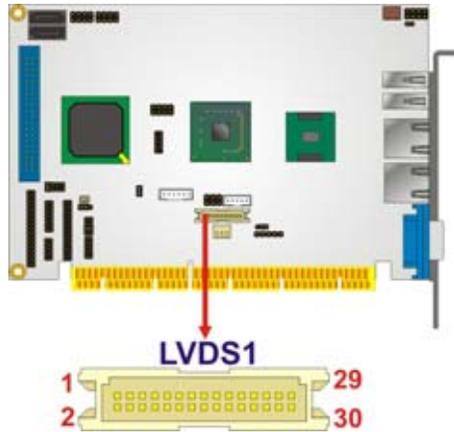

Figure 3-16: LVDS LCD Connector Pinout Locations
- CN Location:** See Figure 3-16